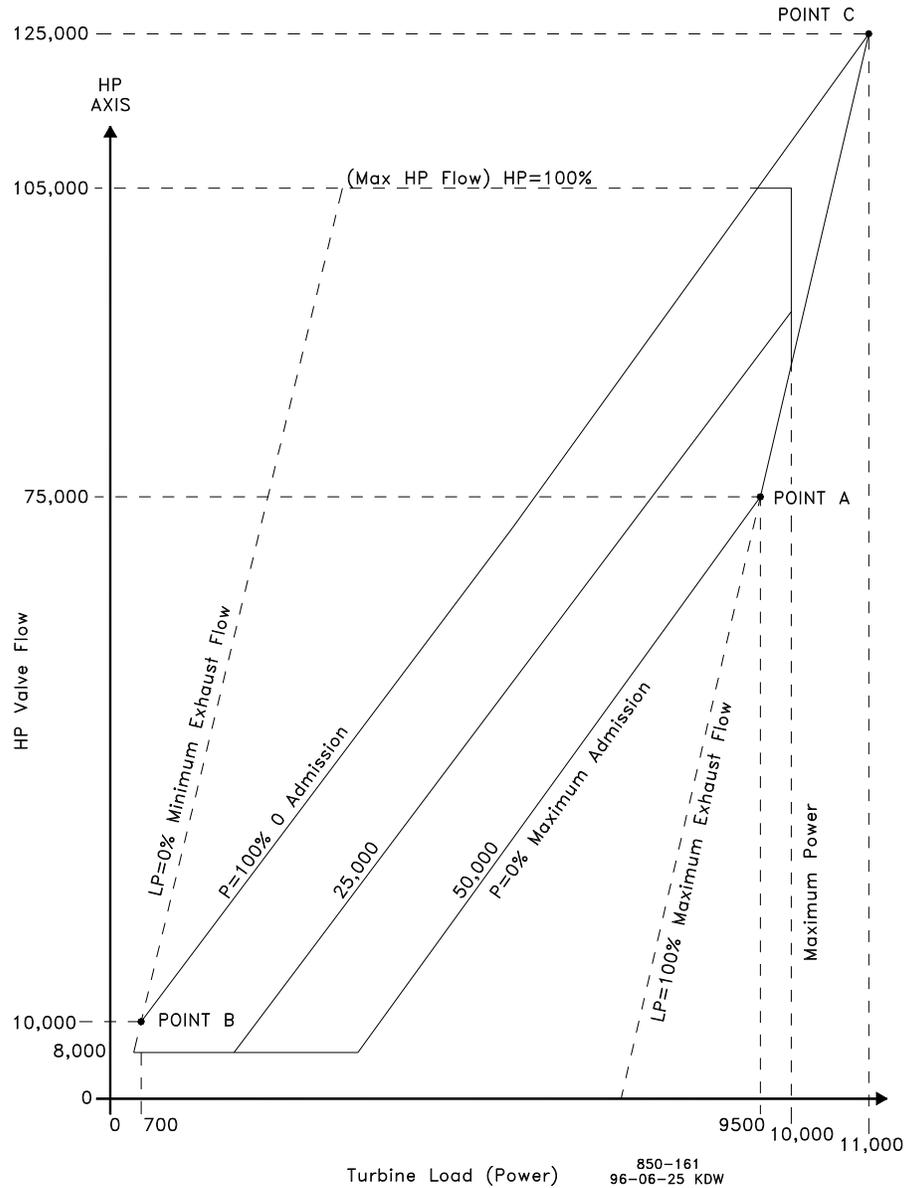

Figure 3-2. Typical Admission Steam Map
Before a turbine's admission steam map can be programmed into the control, it must have the intersection points A, B, & C (refer to Figure 3-2).
If only point A exists, your map will have to be modified to include points B & C. The LP=0 line will need to be created. To create the LP=0 line you must know the minimum required steam flow through the back-end of the turbine. In our example steam map (figure 3-2) the minimum required flow was 10,000 lbs/hr.
1. Extend the zero admission (or induction) line ( $p=100\%$ ). Refer to figure 3-2.
The nine values needed can be taken from the converted steam map. An example has been provided using the steam map in Figure 3-2.